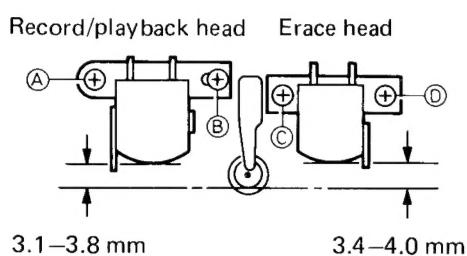

Fig. 15
- 1) To replace the record/playback head, remove two screws (A) and (B) shown in Fig. 15.
- 2) To replace the erase head, remove two screws (C) and (D) shown in Fig. 15.
- 3) When pressing the playback button, adjust these heads with the screws and the adjustment hole so that they are located as shown in Fig. 15.
- 3) Adjust the head angle by turning screw (B) shown in Fig. 15 so that the phase difference between the L and R outputs is 0° and the outputs are maximum.
- 4) After adjustment, be sure to paint-lock screw (B).